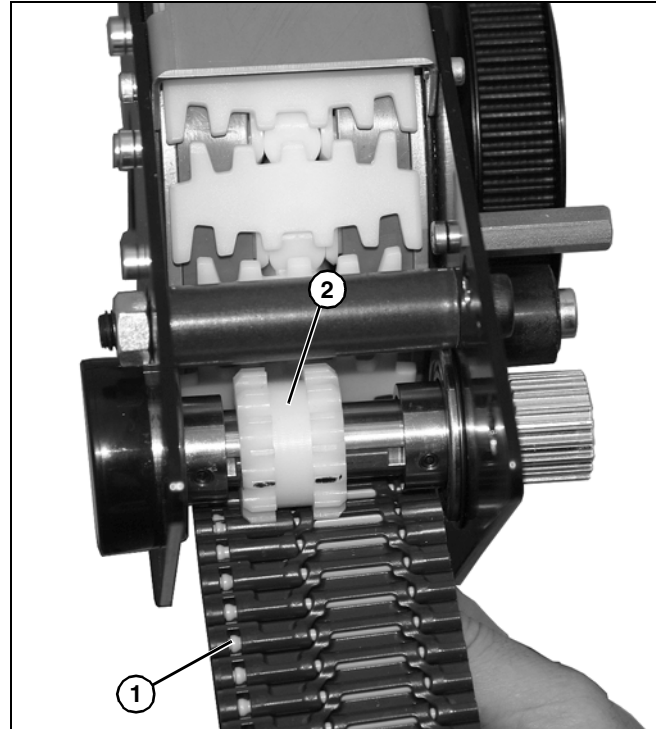

Figure 104
3. Raise belt (Figure 104, item 1) into position, and move gear (Figure 104, item 2) so that cogs line up with belt, as shown.